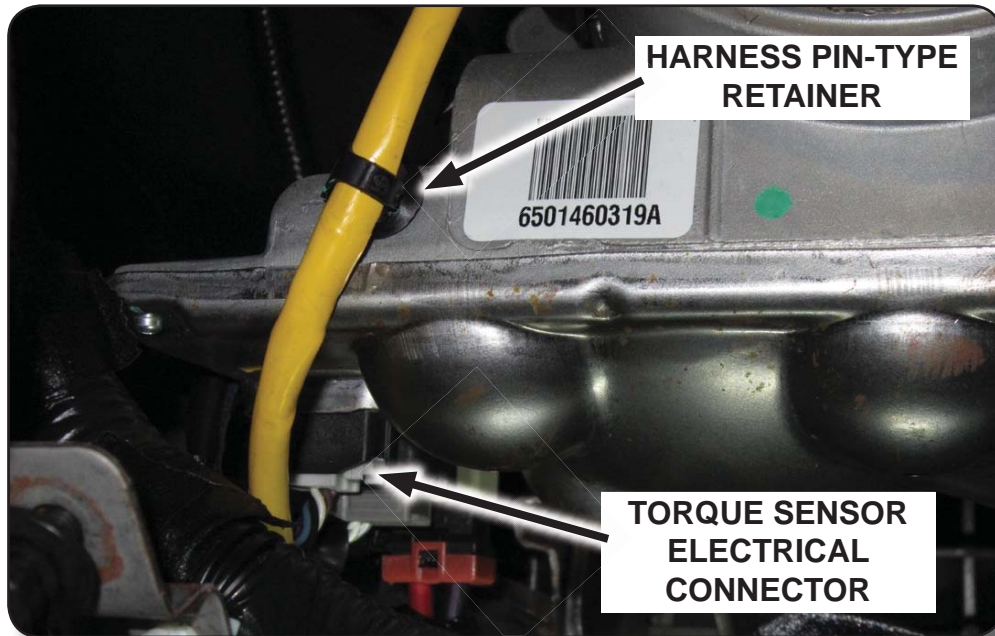

FIGURE 12
16. Disconnect the torque sensor electrical connector and remove the harness pin-type retainer. See Figure 12.